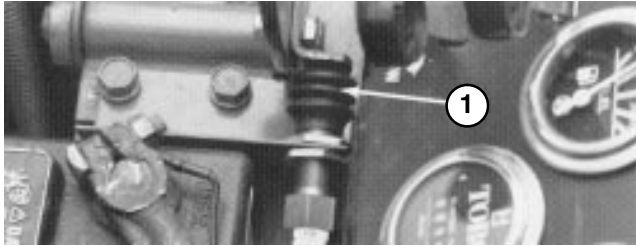

Figure 44
3. Remove boot from button end of PTO switch (Fig. 44). Retain boot for reinstallation. Separate switch wire connectors.